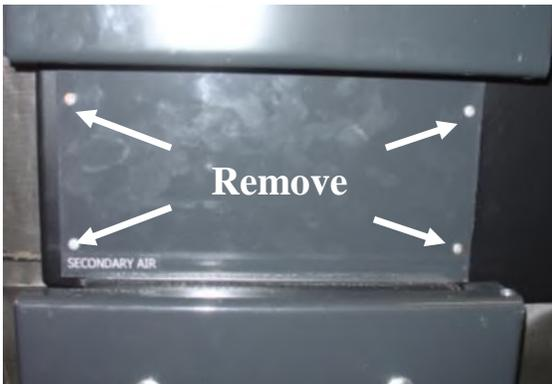

Fig. 4.10 Air Distribution Cover
1. Remove the cover to the air distribution box which is located between the loading and ash doors (Fig.4.10). This is performed by removing the 4 corner nuts and carefully breaking the silicone seal on bottom of diffuser.